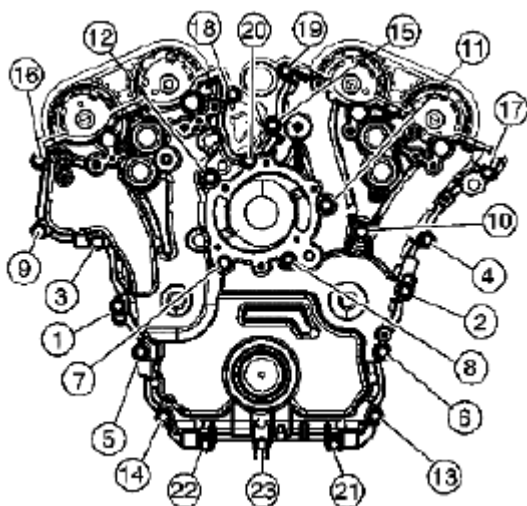

Fig. 126: Tightening Engine Front Cover Bolts In Sequence
7. Tighten the engine front cover bolts in the sequence shown in **Fig. 126**.